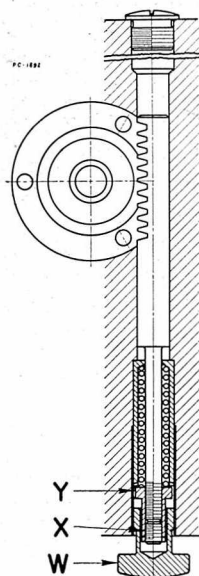

Figure 50
2. Remove knurled cap "W", Figure 50.